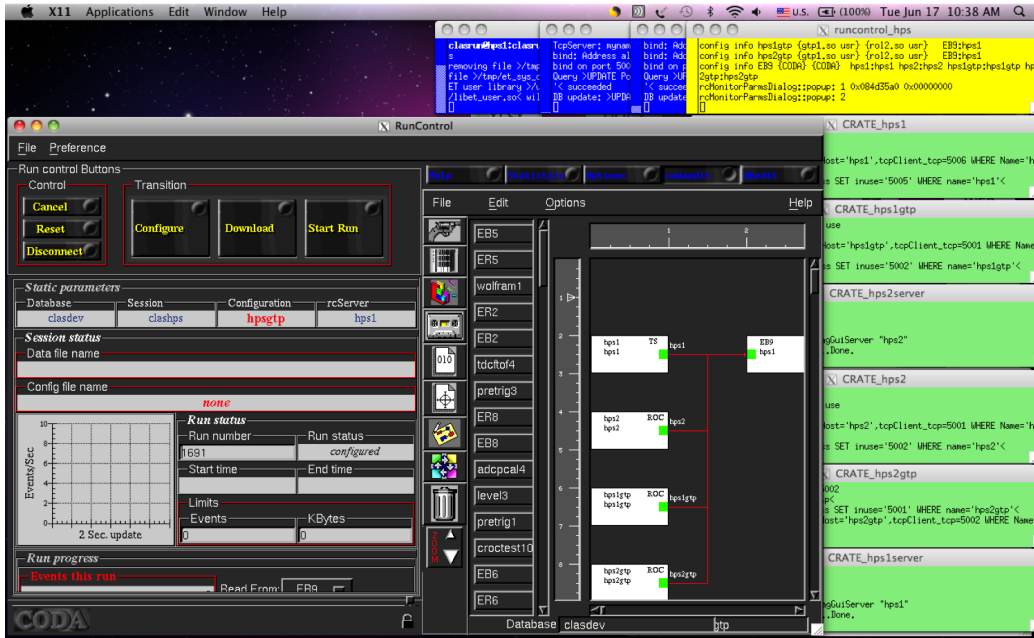

Figure 2: CODA workspace.
3. The workspace should look like Fig. 2.